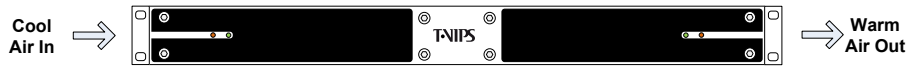

Figure 4.1 Air path through the unit
- This product should never be placed near or over a radiator or heat register. Do not place in a built-in installation (e.g. a rack) unless proper ventilation is provided in accordance with the device airflow design as depicted in Figure 4.1.
Figure 4.1 shows the air path through the unit, where cool air is taken from the left hand side, seen from the front.